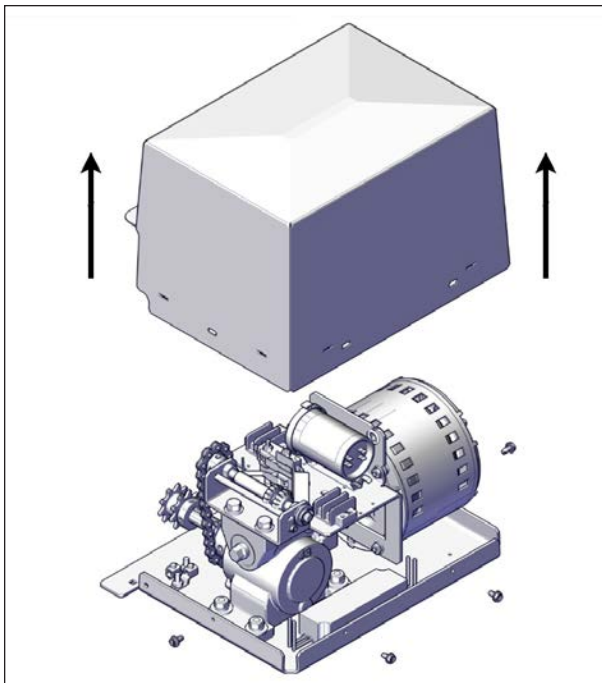

FIGURE 67: REMOVE OPERATOR COVER
1. Remove the screws (4) on the bottom side of the operator cover and remove the cover, see Figure 67.
2. Remove the four slotted screws at the bottom of the operator and remove the cover, see Figure 67.